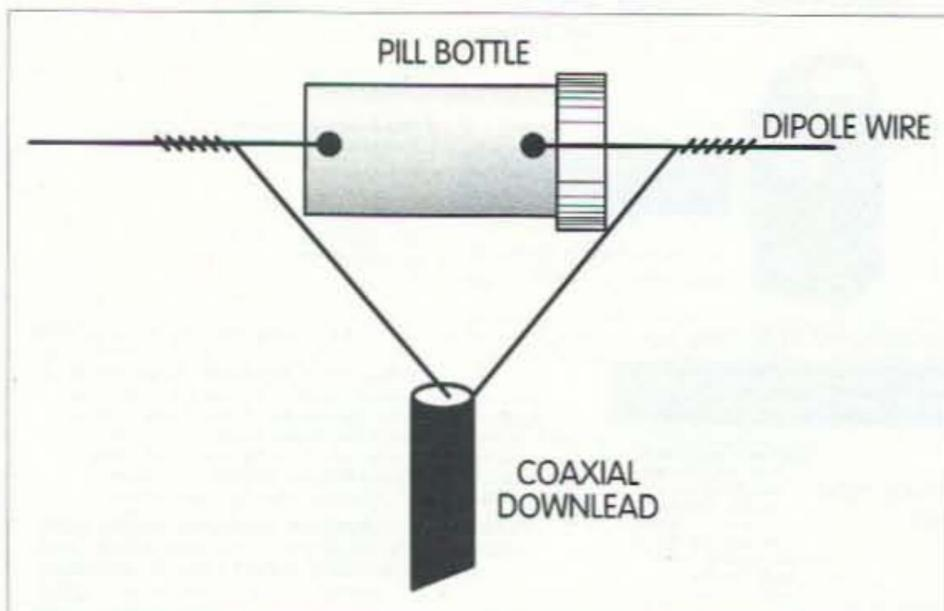

Fig. 3. Indoor wire dipole using a discarded pill bottle as the center insulator.
**From Harold Proppe Jr. K6QVD:** "Now that I'm a senior citizen, I've discovered the 'advantage' (?) of having lots of empty plastic prescription pill bottles to dispose of! In addition to storing small parts, they have other uses in and around the ham shack. If you need a quick coil form or a lightweight dipole antenna insulator (Fig. 3), a pill bottle will often be just the ticket. They're also useful as small containers for holding tiny circuits (for interfacing one gadget to another) or perhaps enclosing a switch or jack for this and that purpose ... and because they come in many varied sizes, keeping a stock of them on hand will usually produce the one that's just right for the project in mind."